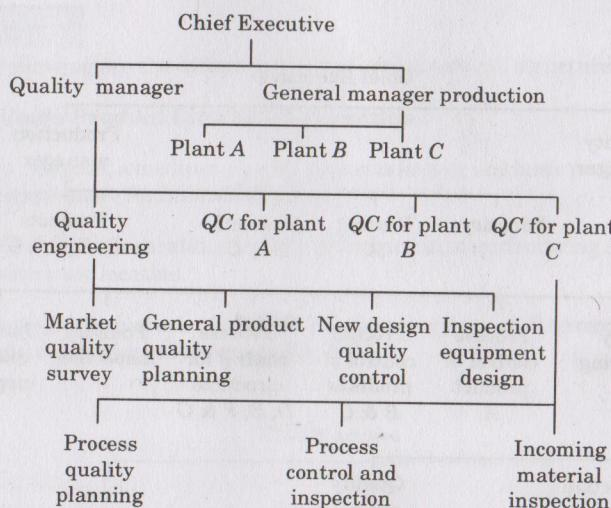

Fig. 2.3.3.
- The Fig. 2.3.3 shows the quality organization in a relatively large company with more than one manufacturing plant for the same product.